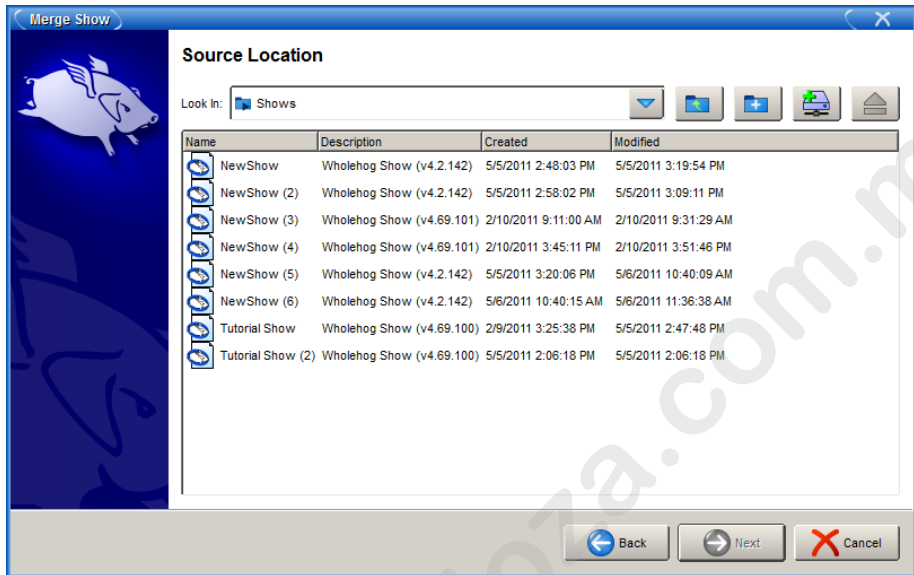

Figure 13.23. The Source Location page of the Merge Show window
2. Press Merge to be guided through the merge process. The Merge Show window will open; see *Figure 13.23, “The Source Location page of the Merge Show window”*.